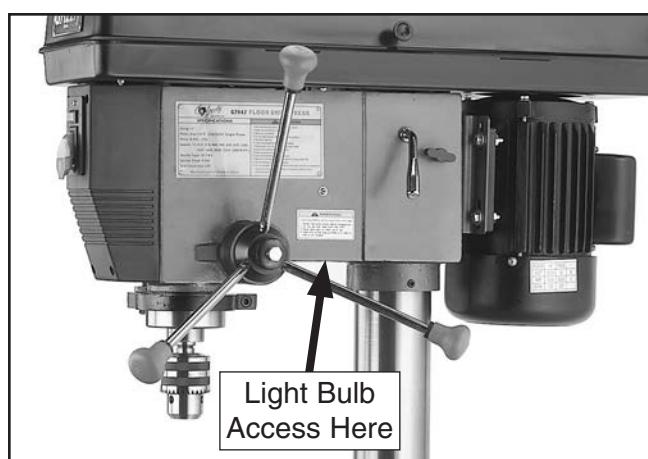

Figure 26. Light bulb access location.
- 26.** Install a 60W or smaller light bulb in location shown in **Figure 26** (120V operation only).